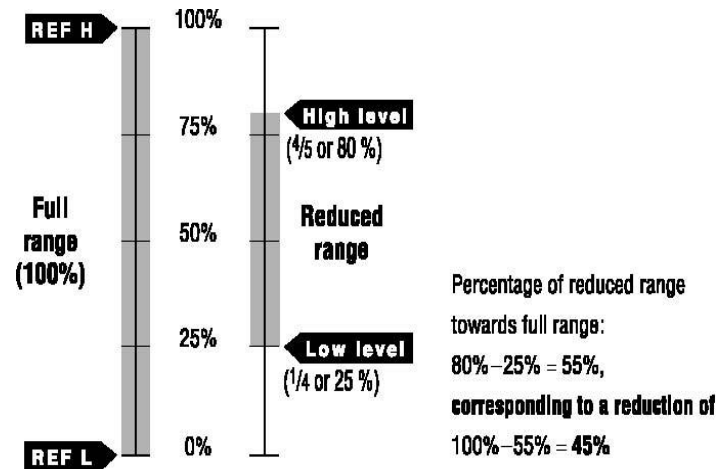

Figure 16
**Example:** To modify a calibration so that 0 % corresponds to a displacer immersed to 1/4 of its height (25%), and 100% corresponds to a displacer immersed to 4/5 of its height (80%), adjust zero shift to 25 % and span reduction to 45 %. See schematic on Figure 16.